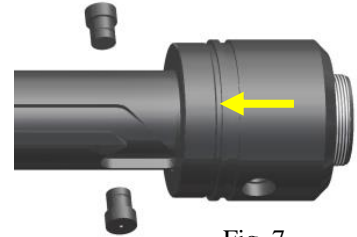

Fig. 7
- L-1.28) Align holes in J-pin body (23) with running position of J-slot mandrel (20). Install J-pins (31) into J-pin body (23) (Fig. 7).
- L-1.29) Move drag block body assembly down and screw body extension (37) onto J-pin body (23) (**NOTE4**: Left-hand threads).
- L-1.30) Screw set screws (40) into body extension (28).
- L-1.31) Install o-ring (45) in o-ring groove in bottom sub (28).
- L-1.32) Screw bottom sub (28) onto J-slot mandrel (20).
- L-1.33) Screw set screws (40) into bottom sub (28).
- L-2) Unclamp upper cone (9) from vise and remove assembled tool.